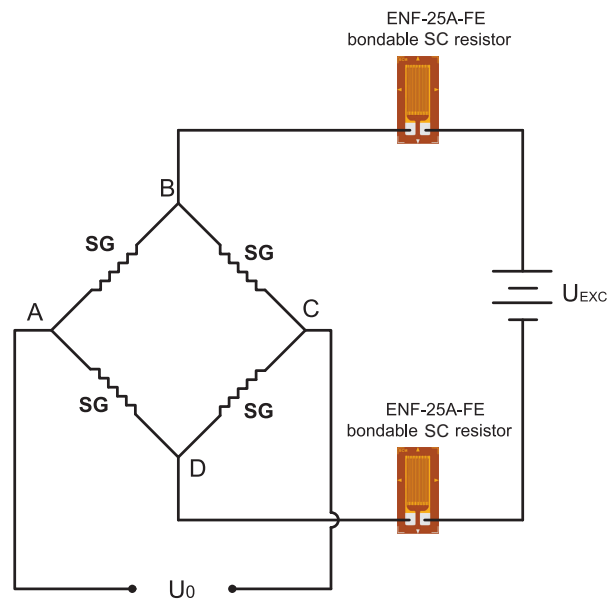

Fig. 1: Symmetric Circuit Using ENF-25A-FE to Compensate Span-Temperature-Drift
The span-temperature-drift can be compensated by means of the Young's-modulus-compensation resistors (or span-temperature-compensation (SC) resistors) from BCM SENSOR, for example, the ENF-series or EBF-series bondable SC resistors. Illustrated in Fig. 1 below is the corresponding bridge circuit using two ENF-25A-FE bondable SC resistors. The reason to use two ENF-25A-FE bondable SC resistors is to make the bridge circuit electrically symmetric, which is in favor of the subsequent SSC (sensor signal conditioning) electronics. But one can also use one ENF-50A-FE SC resistor in case the space to bond the SC resistors is limited. The total resistance of the SC resistor(s) can be calculated approximately according to the following formula:
As R_E is referred to as the total resistance of SC resistor(s), if only one single SC resistor (for instance, 50 Ω) is used, then R_E is the resistance of this SC resistor, i.e., 50 Ω , resulting in an asymmetric bridge circuit. As mentioned above such asymmetric circuit is not favorable to the SSC electronics, because a part of sensor output signal will more likely be saturated. Therefore, it is recommended to have a symmetric circuit. To do so, one can make use of two SC resistors of same resistance and each SC resistor has its resistance of $R_E/2$. Specifically, in this case, the resistance of each SC resistor is 25 Ω , as shown by Fig.1.